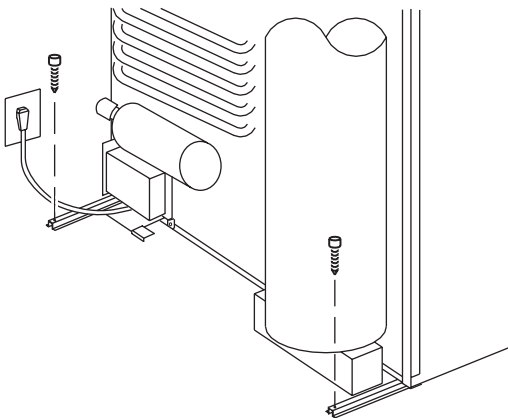

Fig. 15
3. Install two screws in the rear base, see Fig. 15.